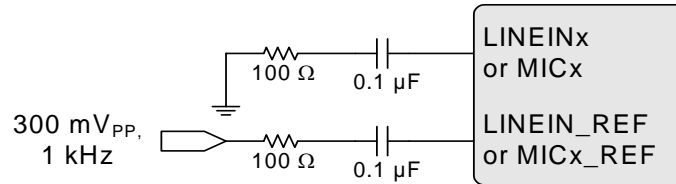

Figure 4. LINEIN_REF/MICx_REF Input Voltage Test Setup
15. The output of the PGA will clip if the voltage difference between the signals on the LINEINx/MICx pin and the LINEIN_REF/MICx_REF pin exceeds the full-scale voltage specification. Providing a signal level on the LINEIN_REF/MICx_REF pin that is higher than the specified maximum value may degrade PGA linearity and adversely affect analog input performance. Refer to Figure 4 below.